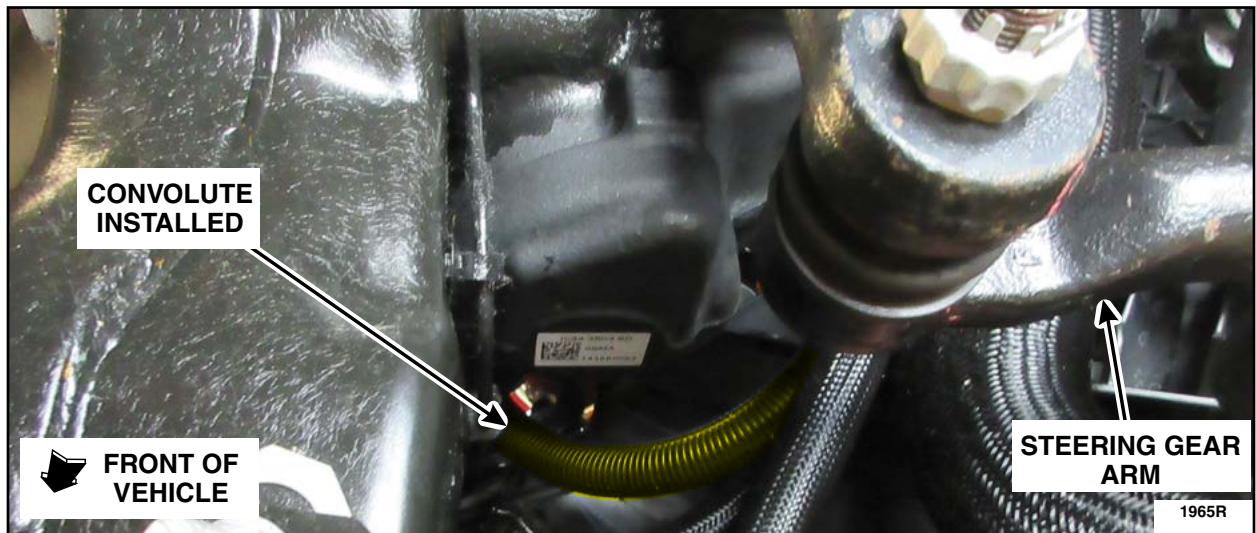

FIGURE 19
13. Install the convolute to the lower power steering pump to Hydro-Boost pressure hose. See Figure 19.